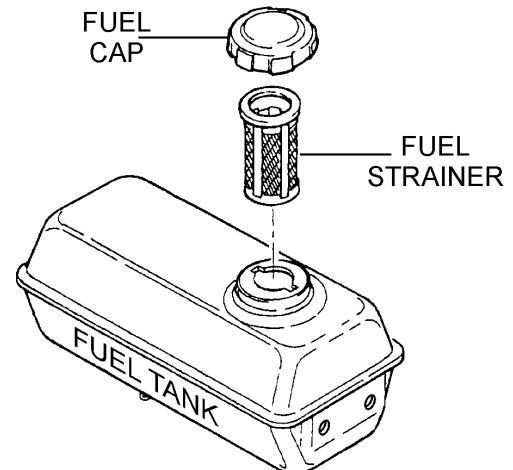

Figure 12. Fuel Strainer Removal
3. Next, remove, inspect and clean the fuel strainer (Figure 12) with solvent.